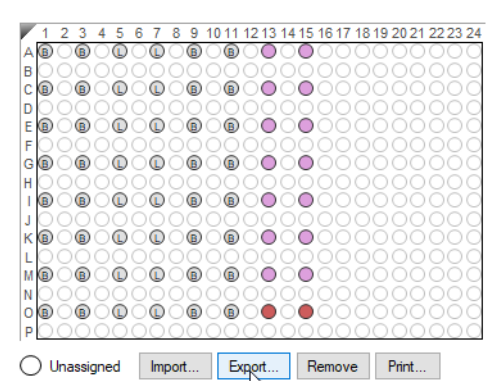

Figure 10-23: Sample Plate Map – Export Button
1. In the **Sample Plate Map**, click **Export** (see Figure 10-23).
1. In the Plate Definition window (see Figure 10-23: on page 430), click **Import**.